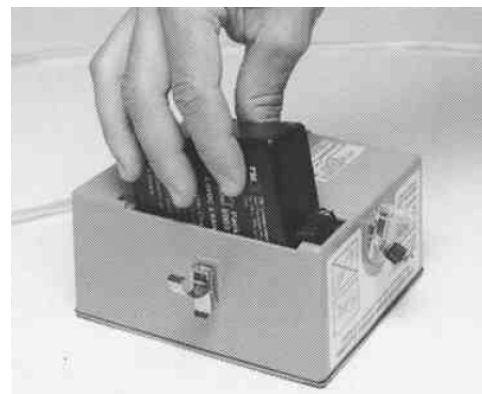

Figure X-11. Installing the battery pack
Step 4. Insert the battery pack into the battery compartment in the orientation shown (fig. X-11).